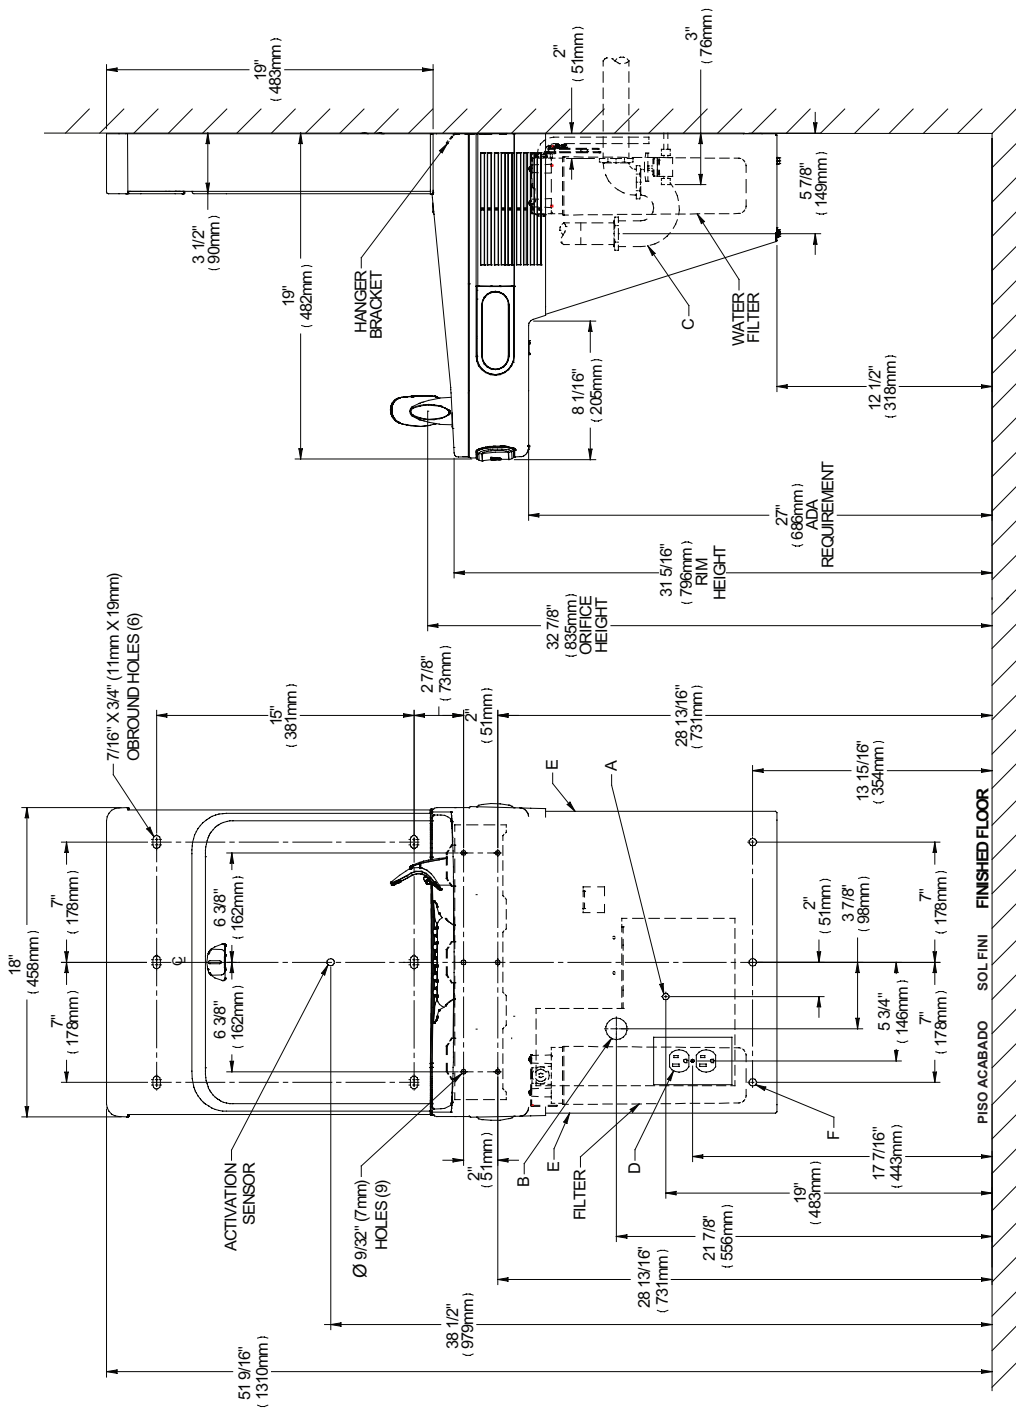

Fig. 1
- 1) Remove hanger bracket fastened to back of cooler by removing one (1) screw.
- 2) Mount the hanger bracket as shown in Figure 1 (Pg. 2).
**NOTE:** Hanger Bracket **MUST** be supported securely. Add fixture support carrier if wall will not provide adequate support. Anchor hanger securely to wall using all six (6) 1/4 in. dia. mounting holes.
- 3) Hang the cooler on the hanger bracket. Be certain hanger bracket is engaged properly in the slots on the cooler back as shown in Figure 1 (Pg. 2).